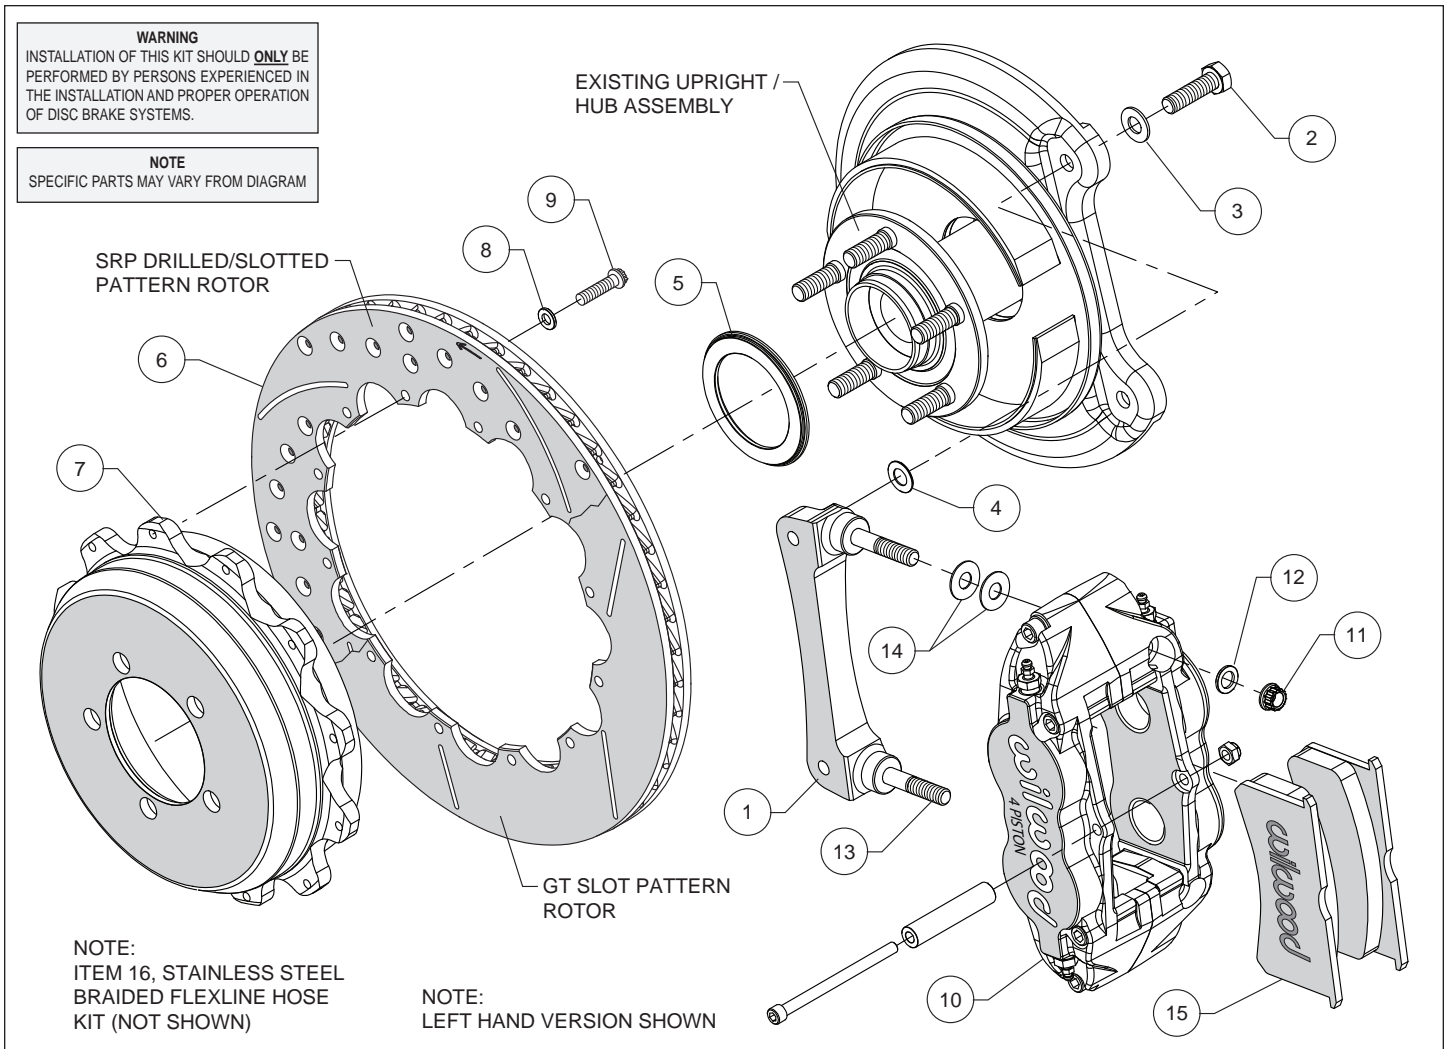
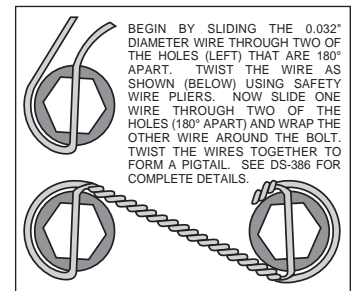

Figure 1. Typical Installation Configuration
Figure 3. Safety Wire Diagram
**Assembly Instructions** (numbers in parenthesis refer to the parts list and Figure 1 on the preceding pages):
- The caliper mount bracket (1) should initially be installed with clean, dry threads on the mounting bolts. Orient the bracket as shown in Figure 1 and Photo 2, and install using washers (3) and bolts (2). Initially place one shim (4) on each bolt between the bracket and upright, Figure 1. Temporarily tighten the mounting bolts. **NOTE:** *The bracket must fit squarely against the mount bosses on the upright.* Inspect for interference from casting irregularities, machining ridges, burrs, etc. Later, after the caliper alignment has been checked, the mount bolts will be secured using red *Loctite*® 271.
- Orient the rotor (6) and the hat (7) as shown in Figure 1 and Photo 3. Attach rotor to hat using bolts (9) and washers (8). Using an alternating sequence, apply red *Loctite*® 271 to the threads, and torque to 140 **in-lbs**. For an added measure of security, the bolts may be safety wired using standard 0.032 inch diameter stainless steel safety wire as shown in Figure 3. Please refer to Wilwood's data sheet DS-386 (available at [www.wilwood.com/Pdf/DataSheets/ds386.pdf](http://www.wilwood.com/Pdf/DataSheets/ds386.pdf)) for complete safety wire installation instructions.
- Lubricate the caliper mounting studs (13) with lightweight oil. Initially place two .035" thick shims (14) on each stud as shown in Figure 1 and Photo 5. Mount the caliper (10) onto the bracket (1) using lock nuts (11) and washers (12), Figure 1. Temporarily tighten the lock nuts and view the rotor through the top opening of the caliper. The rotor should be centered in the caliper, Photo 6. If not, adjust by adding or subtracting shims (4) between the bracket and the upright. Once the caliper alignment is correct, remove the bracket mounting bolts one at a time, apply red *Loctite*® 271 to the threads, and torque to 40 ft-lb.